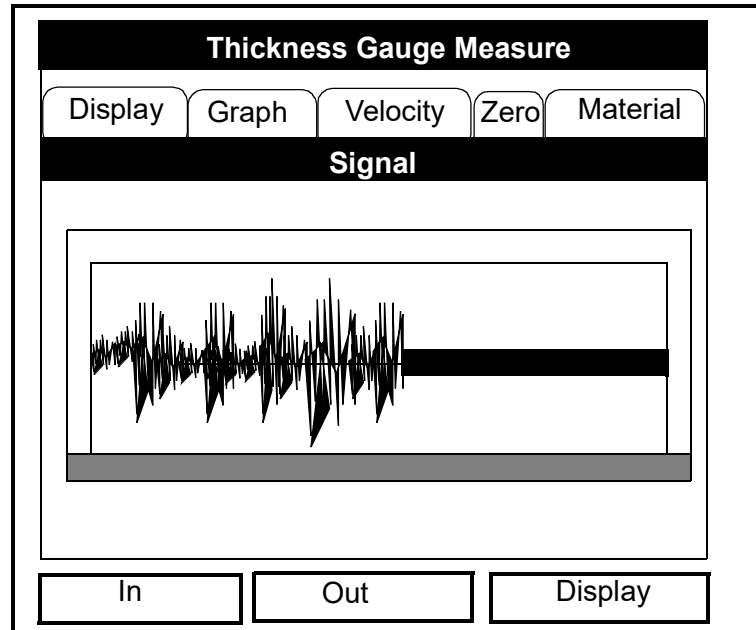

Figure 136: The Graph Window in Zoom Format
Press [F2] (Cancel) or [F3] (OK) to return to Operate Mode, or press the [▶] arrow key to move to another window in the option. However, if you wish to adjust the graph, press the [▼] key. The screen now appears similar to Figure 136 on the next page.